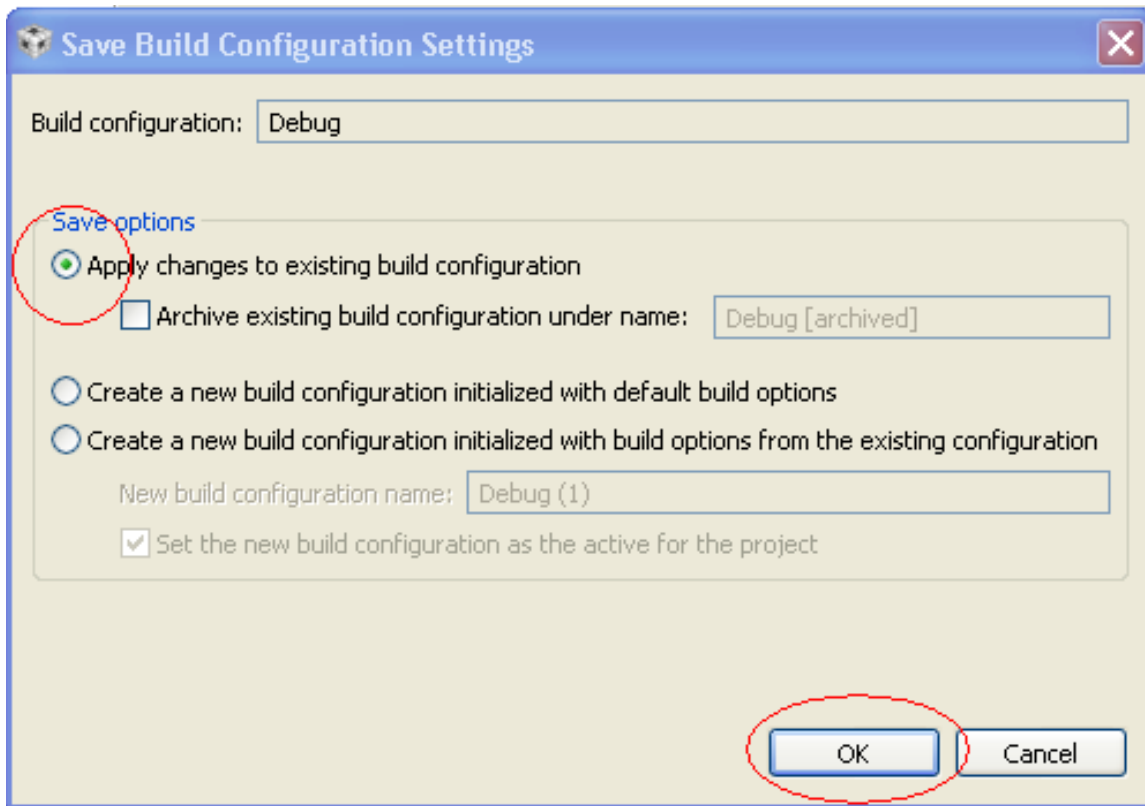

Figure 13. Properties for “hello” - Code Composer Studio Build
9. Click on the OK button on the window that appears next (as shown in Figure 13) and return to the Code Composer Studio project properties for this project.